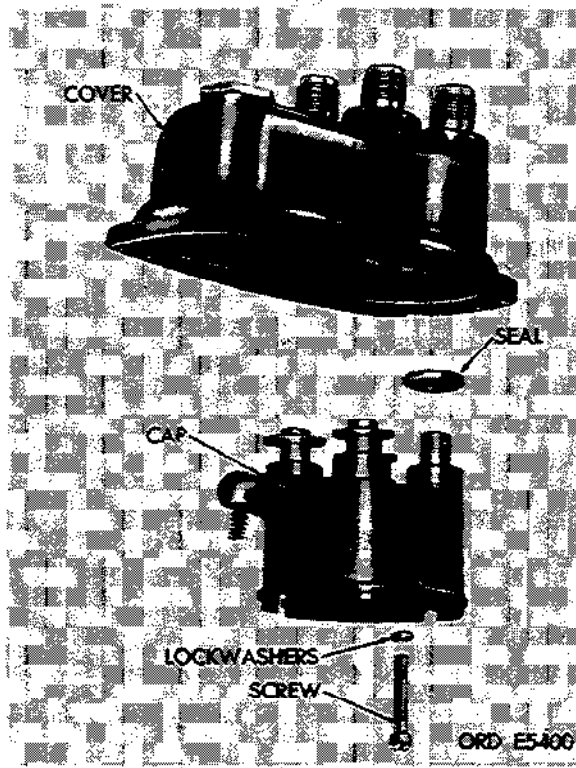

Figure 2-150. Remove cap from cover.
(3) Remove three screws and lockwashers which attach cap to cover. Remove cap from cover. Remove four seals from cap terminals (fig. 2-150). Check for cracks and carbon tracks. Check inserts in cap for excessive burning.